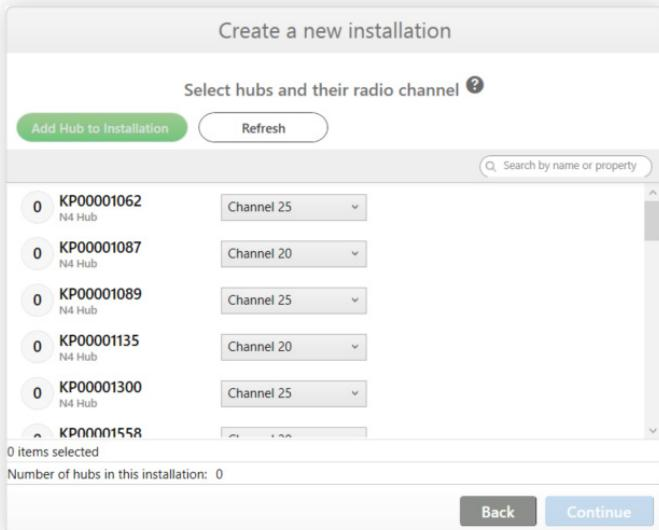

fig. 15
- 8 Select an N4 from the list. See fig. 15. Selecting an N4 will cause it to identify itself by flashing its indicator lights, so you can tell which hub you're addressing.